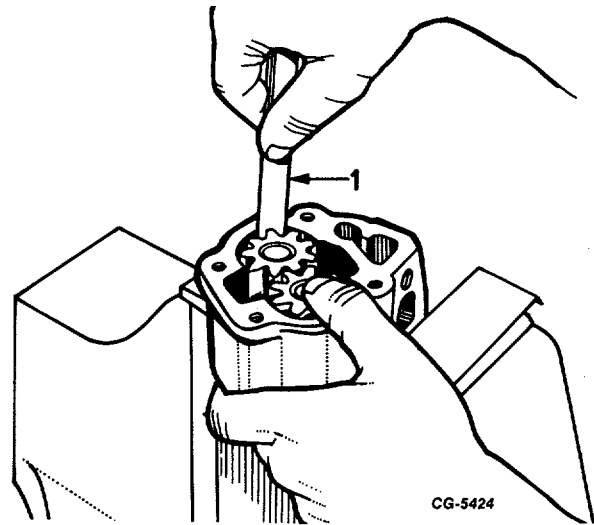

Fig. 131 Measure Pump Gear-to-Body Clearance
3. While holding the gears in this manner, measure the clearance between the outside diameter of the gear and the bore of the housing, Figure 131. Clearance should be within the limits given in the specifications.